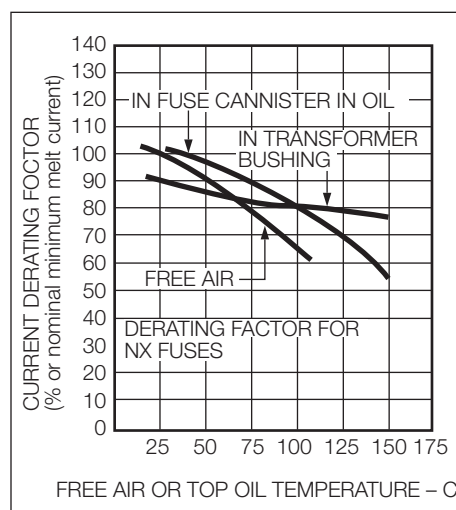

Figure 12.
To determine the proper NX fuse size for carrying desired current and percent overload available at raised ambient temperatures, the minimum-melt current must be derated. The curves in Figure 12 show the derating factors for NX fuse applications at raised ambient temperatures in air, in canisters suspended in oil, and in transformer bushings. (These curves are based on a six-hour melting time, not the maximum pre-melt current.)
1. On Figure 12, draw a vertical line at 75° C to intersect the free-air curve.